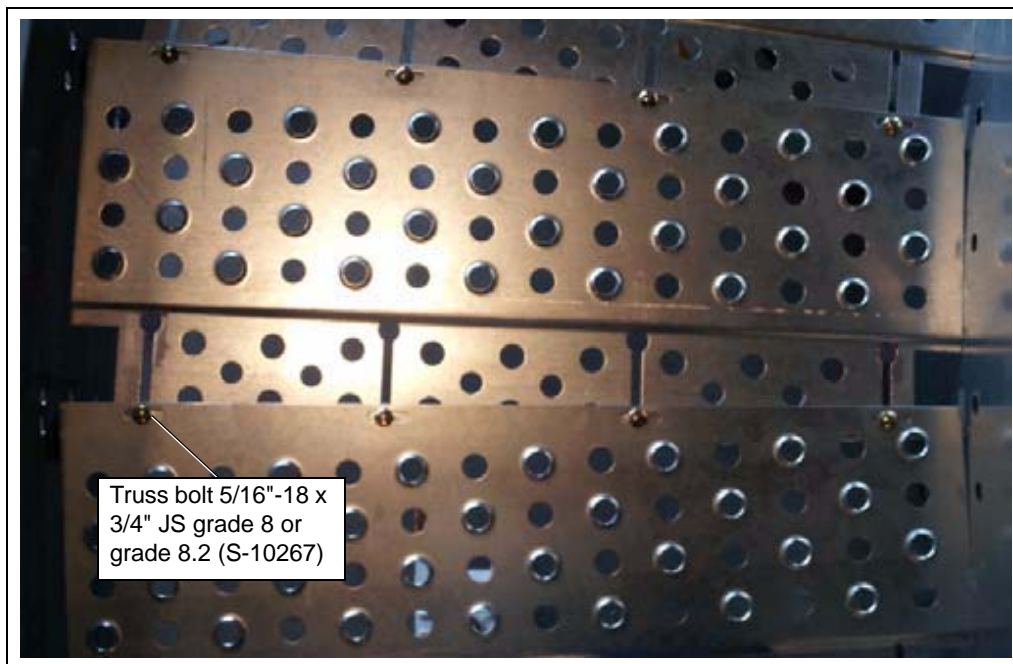

Figure 6Q
- Each plank should be overlapped at the edges and bolted with 5/16"-18 x 3/4" JS grade 8 or grade 8.2 bolts (S-10267) and 5/16"-18 x 3/4" JS grade 5 nuts (S-10268). (See Figure 6Q.)